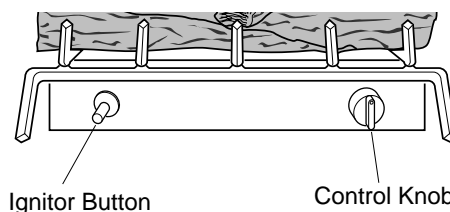

Figure 29 - Control Knob and Ignitor Button Location
4. Wait five (5) minutes to clear out any gas. Then smell for gas, including near the floor. If you smell gas, STOP! Follow "B" in the safety information above. If you don't smell gas, go to the next step.
5. Press in control knob and turn counterclockwise  to the PILOT position. Keep control knob pressed in for five (5) seconds (see Figure 29).